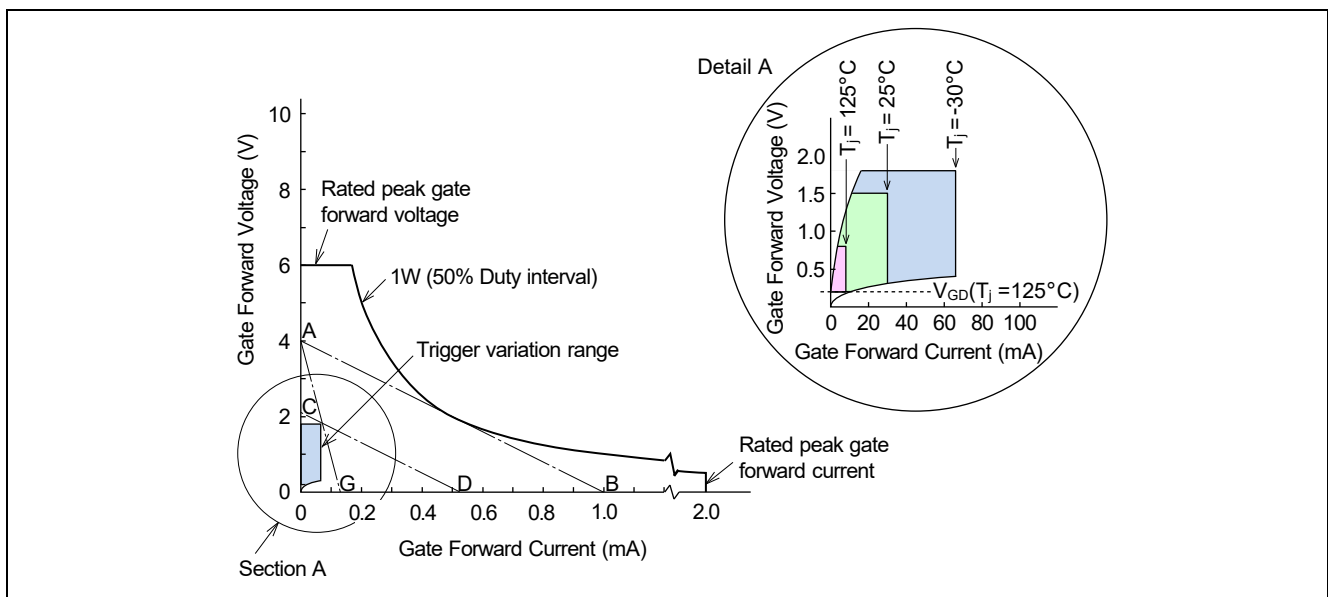
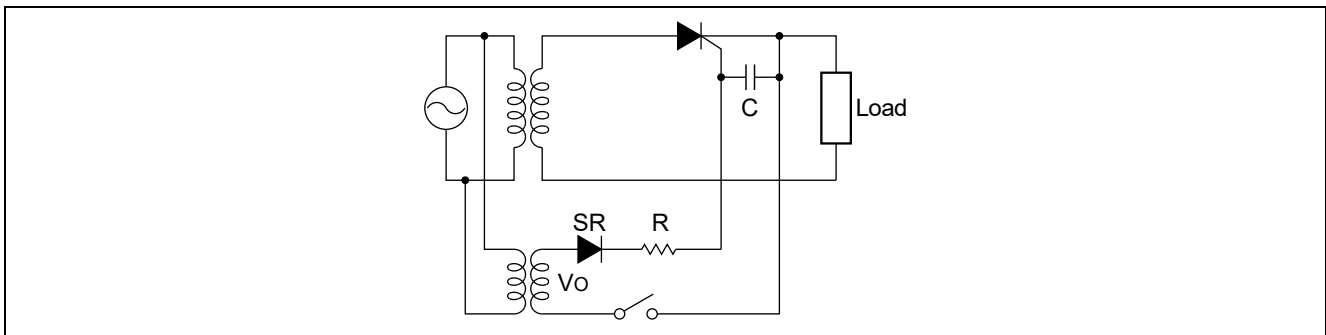

Figure 6 Gate triggering conditions
Figure 9 Example of Trigger circuit wiring diagram
A graph as shown in Figure 6 can be used to help determine circuit parameters. Here, the gate forward current is shown on the horizontal axis, and the gate forward voltage on the vertical axis. The variation range of trigger characteristics and the hyperbolic curve that represents allowable gate power dissipation according to the gate duty interval are plotted in the graph.
In the upper and right areas of the shaded range in this graph, the device will always trigger. The boundary represents the maximum gate trigger current and voltage in the operating temperature range (minimum junction temperature). By contrast, the lower and left area of the shaded range, the device will not trigger. Here, the boundary represents the minimum gate non-triggering current and voltage in the operating temperature range (maximum junction temperature). The graph in Figure 6 is for the thyristor CR25RM-12D (a double logarithmic scale graph is used in the catalog). The maximum gate trigger current for that device is 30 mA ($T_j = 25^\circ\text{C}$), the maximum gate trigger voltage is 1.5 V ($T_j = 25^\circ\text{C}$), and the minimum gate non-trigger voltage is 0.2 V ($T_j = 125^\circ\text{C}$).
The main concerns in designing a trigger circuit center around determining proper values for power supply voltage, power supply internal resistance, and current-limiting resistors. These can be determined using the graph in Figure 6, by marking the triggering source voltage value for an open output terminal on the vertical axis, and the value for short-circuit current, when the output terminal is closed, on the horizontal axis, and then connecting the two points. This straight line is called the “gate load line”, and no matter how much gate input resistance inside the thyristor fluctuates, the voltage and current applied to the gate will be values on this gate load line. Consequently, as long as this load line does not cross the shaded range, and remains below the rated gate power dissipation curve, all devices will trigger completely and safely. If the load line crossing the shaded range, some devices may not always trigger, and if crossing the rated gate power dissipation curve, the power dissipation at the gate of some devices will be exceeded the rating.
It is explained that an example of designing a gate trigger circuit for thyristor CR25RM-12D synchronized with the main circuit voltage as shown in Figure 9. The silicon diode (SR) blocks negative cycles of the AC power supply for triggering. Unlike germanium diodes, the threshold voltage of silicon diodes is as high as 0.7 V, which helps prevent false triggering. The trigger supply voltage is rectified to half wave by the silicon diode (SR), so the gate duty period is 50%. Draw the allowable power dissipation curve for the 50% duty period on the gate load line graph in Figure 6. The average rating of gate power dissipation for CR25RM-12D is 0.5 W, so the allowable average gate power dissipation during 50% duty period will correspond to the 1 W according to the following formula.